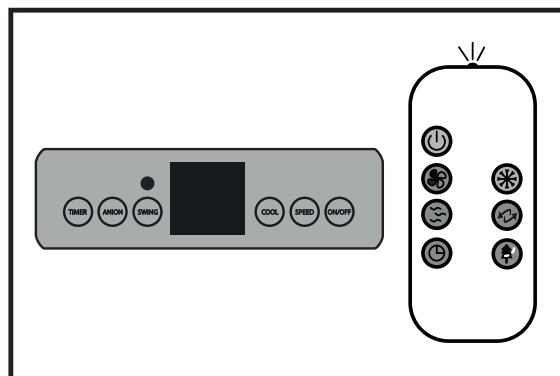

Fig. 8
▶ **4.2. PANEL STEROWANIA, UŻYTKOWANIE I FUNKCJE DLA MODELU BC60 (Rys. 8):**